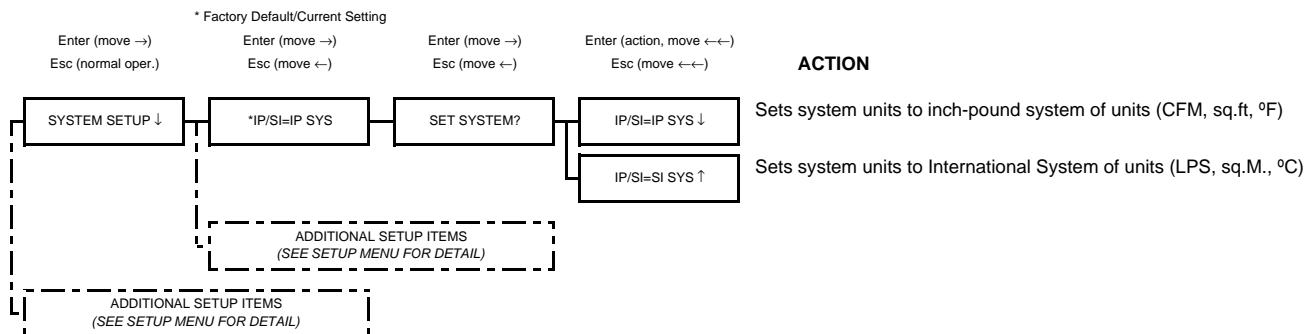

Figure 9. System of Units Menu
The GF-1200-A transmitter is shipped with the system of units set to US inch-pound units (IP), and will display units of measure as shown in the IP column of Table 2. To change to standard international (SI) units, simultaneously press and release the “UP” and “DOWN” arrow pushbuttons during normal operation to enter the SETUP menu. Then, using the ENTER button navigate into the SYSTEM SETUP menu. Figure 9 shows the System of Units sub-menu. Press “ENTER” to proceed to the right (three times), and then use the “UP” and “DOWN” arrow buttons to select the system of units desired. Press the “ENTER” button to save the changes, and then press “ESC” twice to move left and return to normal operating mode. Note that the Setup Menu is shown in IP System Of Units. When SI System of Units is selected, the units of measure abbreviations shown in the menus changes as shown in the SI column of Table 2.